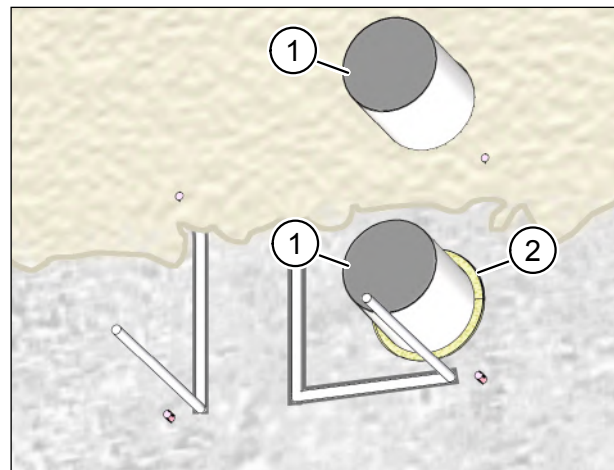

Fig. 18: Plastering the internal wall
- ▶ Before plastering, close off both ends of the ventilation pipes with adhesive tape (item 1 in Fig. 18) or another suitable material.
- ▶ Trim the expanding foam (item 2 in Fig. 18) flush with the unplastered wall.